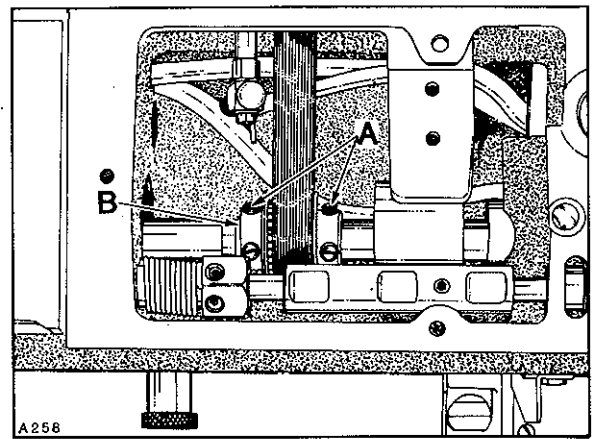

Fig.30
The Close-Coupled Roller Puller must be timed so the intermittent feeding action stops BEFORE the needles are entering the work. NOTE: This will depend on the thickness of material and stitch length being sewn. If adjustment is required, remove top cover which is secured with four screws. Loosen four set screws (A, Fig. 30) in sprocket (B). Advance or retard sprocket on shaft as required. When proper timing is obtained, position sprocket on its shaft (left or right) so drive belt is centered in the puller drive assembly. Torque four screws (A) to 35 in-lbs. (40 cm/kg). There should be approximately 1/8